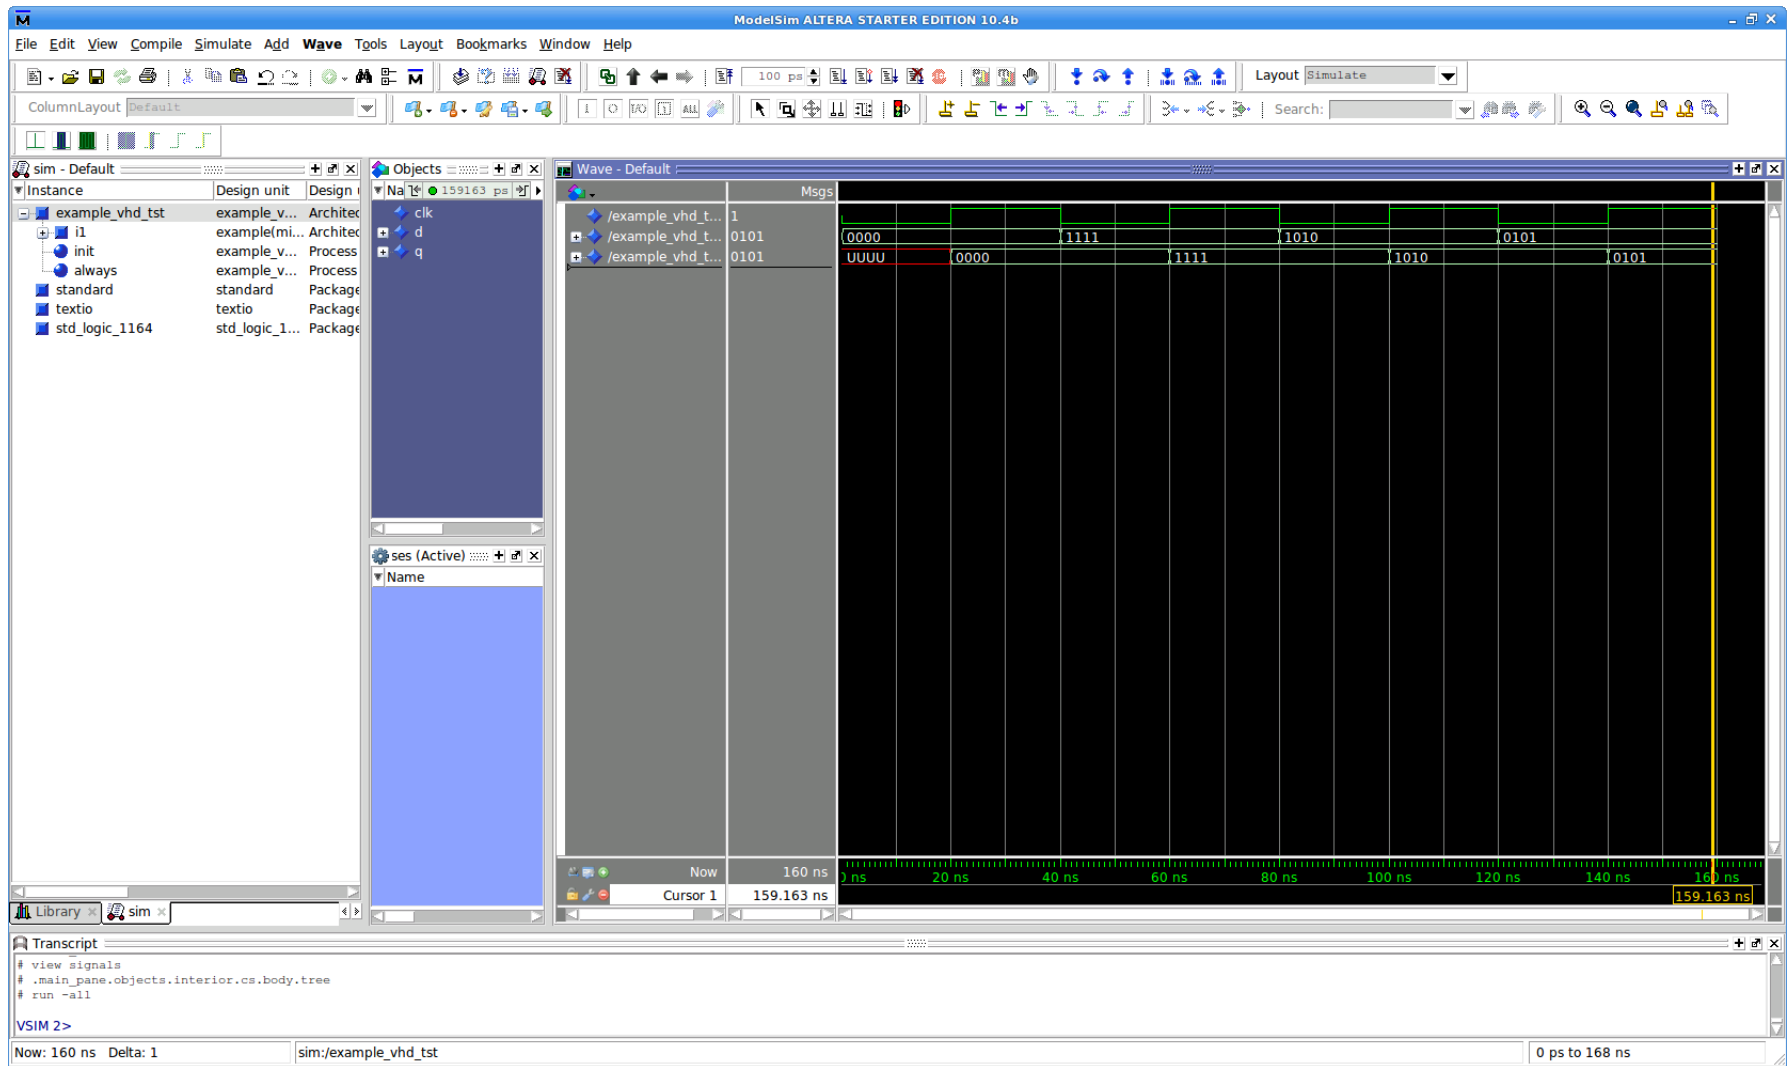

Figure 15: Complete Simulation Window.
12. Now you are ready to simulate. Simply click **Tools->Run Simulation Tool->RTL Simulation** to launch ModelSim. If you had no errors in your testbench, ModelSim will automatically run your file until it reaches the end of the always process. Click the waveform window, and then select the **Zoom Fit** option and it will zoom out the window so you can see all of your changes more clearly. Your final output should look similar to figure 15.